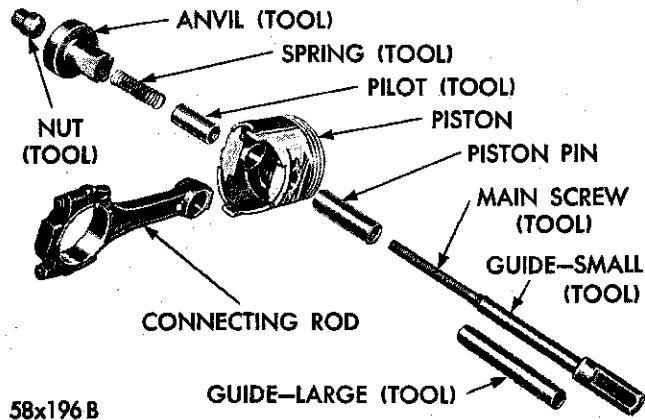

Fig. 40—Tool Arrangement for Installing Piston Pin
- (2) Lubricate the piston pin holes in the piston and connecting rod.
- (3) Arrange the Tool C-3684 parts for installation of piston pin as shown in Figure 40.
- (4) Install the spring inside the pilot and install the spring and pilot in the anvil. Install the piston pin over the main screw.
- (5) Place the piston, with "front" up, over the pilot so that the pilot extends through the piston pin hole.
- (6) Position the connecting rod over the pilot which extends through the piston pin hole.
- (7) Install the main screw and piston pin in the piston, as shown in Figure 40.